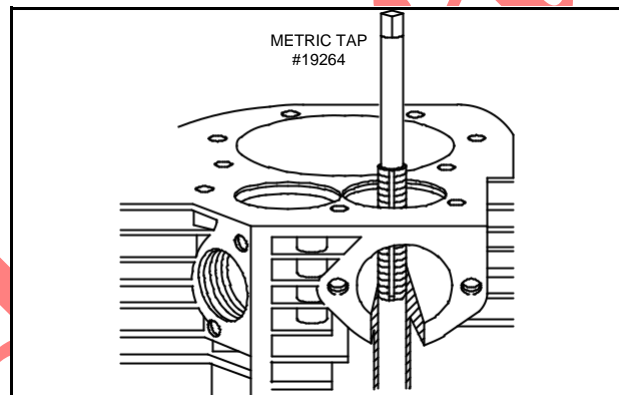

Fig. 15 – Thread Bushing
3. Remove tap and clean chips from bushing threads, Fig. 15.